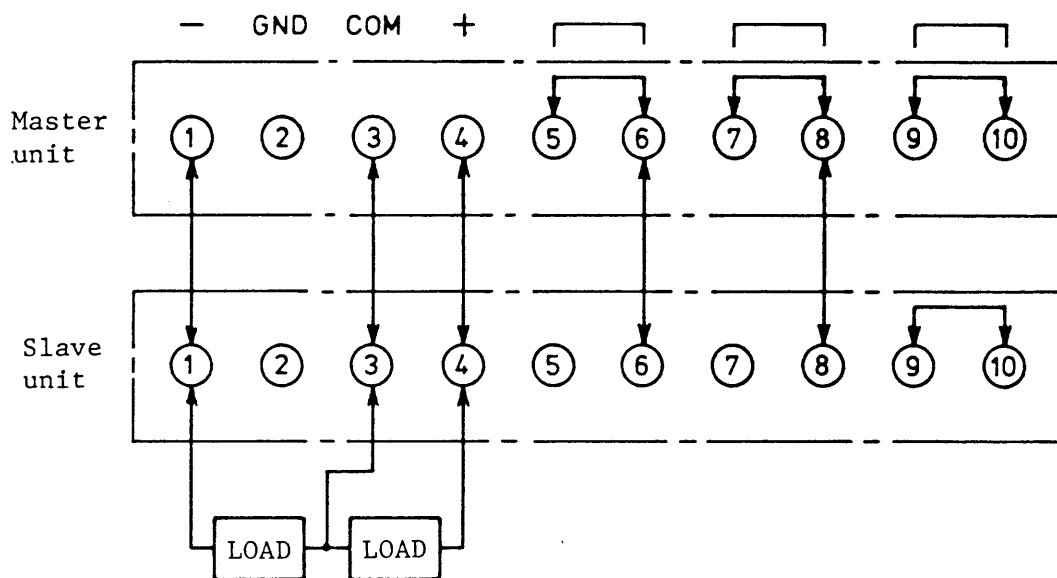

Figure 4-7 One-control parallel operation
- (1) Connect as shown in Figure 4-7 the rear terminals of the master unit (which controls the output voltage) and the slave unit (of which output voltage is controlled).
- (2) Connect the load to the rear output terminals. To turn-on the system, turn-on the power switch (output switch) of the master unit first and that of the slave unit next; to turn-off the system, turn-off the power switch of the slave unit first and that of the master unit next.